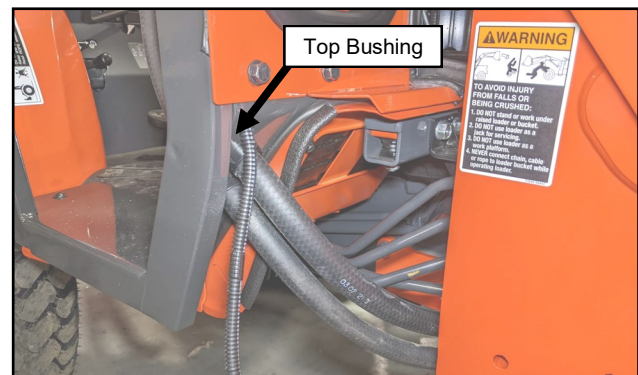

Fig. 15.13 (Route Heater Hose)
- 15.13** From inside the cab, route the end of the 5/8" hose through the top bushing in the floorboard and along the lower hose toward the engine. Again, use the natural curve of the hose to take corners and prevent kinking. See Figure 15.13.